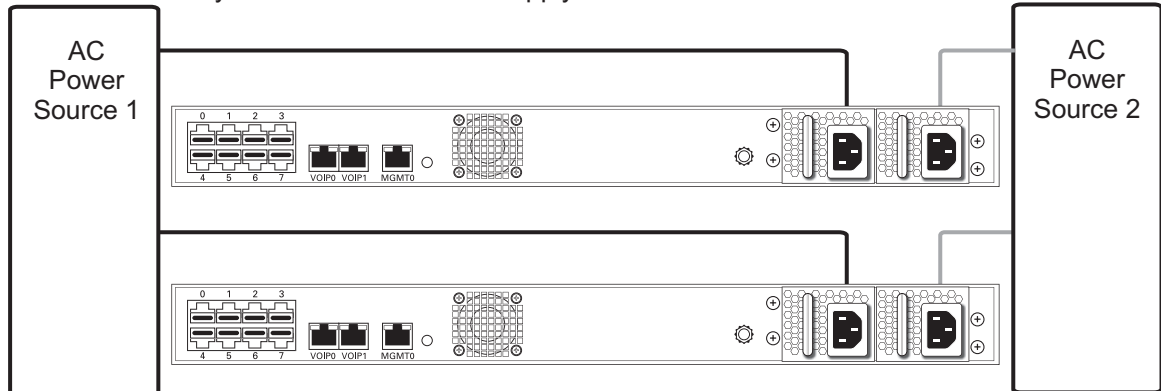

Figure 2.11 800 Series and 800 Series +1 AC Power Connections
1. Connect the first power connector of each unit to the first power source. See Figure 2.11.